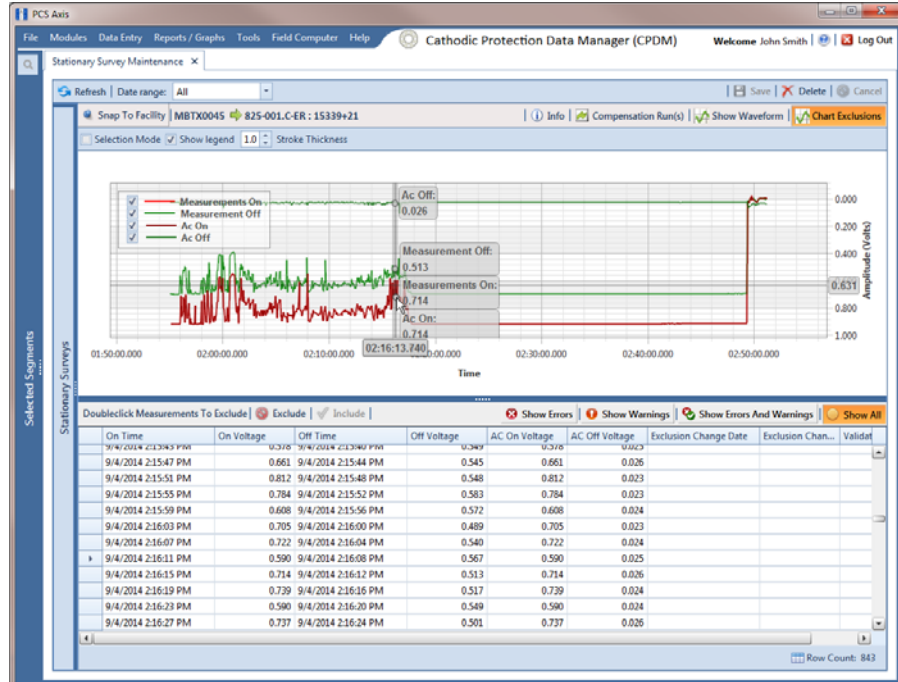

Figure 14-8. Select Survey Record in Grid
- **Survey Record Selection:** Click anywhere on a graph line to highlight the corresponding survey record in the survey record grid in the bottom panel. A survey record with an arrow denotes a selection in the grid. For example, the survey record with an *On Time* of 9/4/2014 2:16:11 PM is selected in the following example (Figure 14-8).